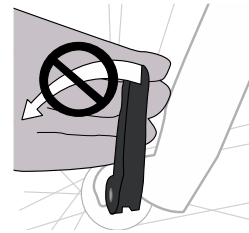

Figure 12. Correctly closed lever will not rotate
- Make sure the locked quick-release lever cannot be turned (Figure 12).